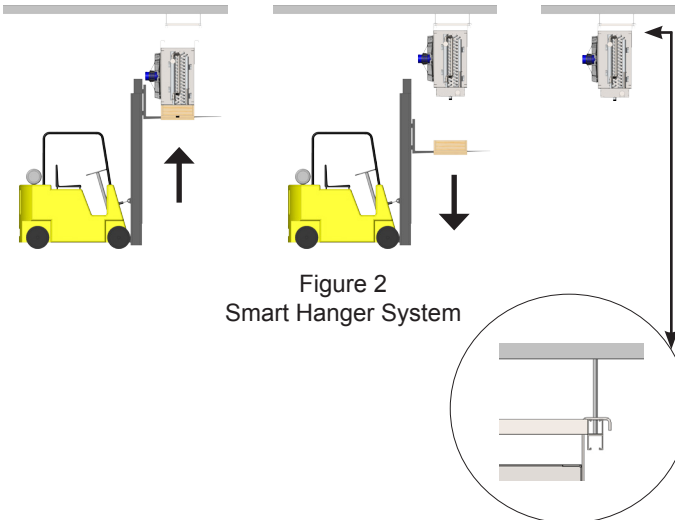

Figure 2
**Smart Hanger System:** This optional patented design was developed to make the process of mounting ceiling-hung air coolers faster and safer. Smart hanger brackets and rails allow air cooler units to be hung from the ceiling without any personnel leaving the floor level. The time consuming process of aligning threaded rods into mounting holes while the unit is being lifted into position is eliminated, reducing suspended load time by as much as 75%. Side to side placement of the air cooler on the Smart Hanger rails is non-critical and therefore faster. See Figure 2.